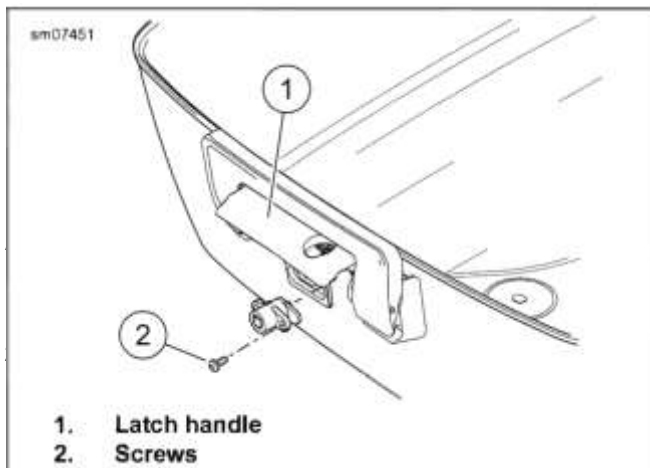

Figure 3-184. Latch Handle and Lockset Assembly
1. See Figure 3-184. Open latch handle (1) completely.
2. Remove two screws (2).